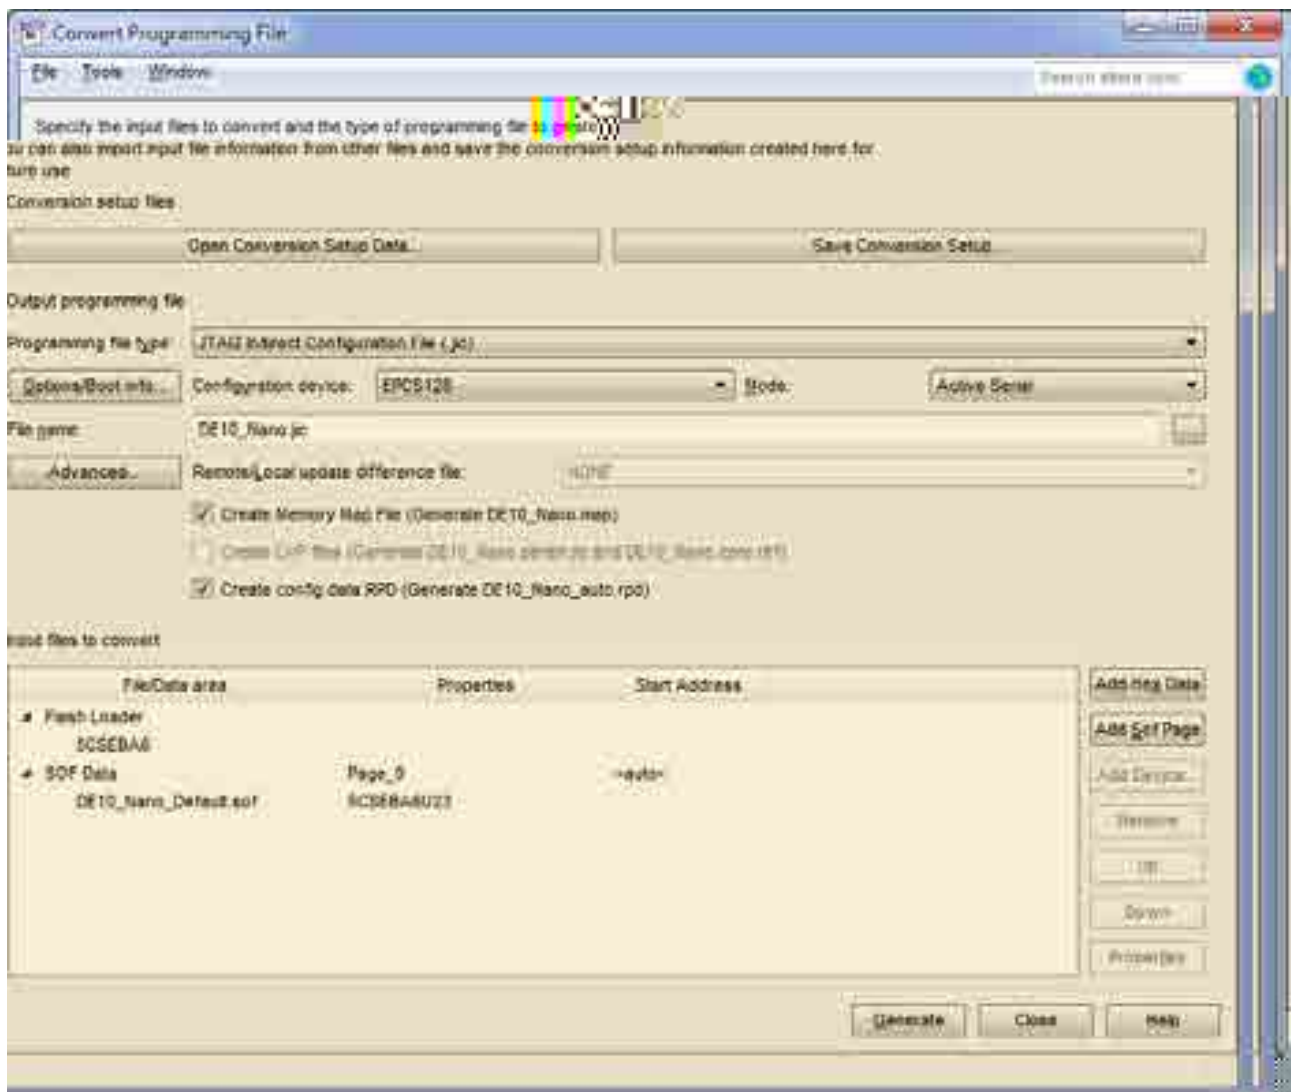

Figure 8-6
12. Click OK and the Convert Programming Files page will appear, as shown in **Figure 8-6**.